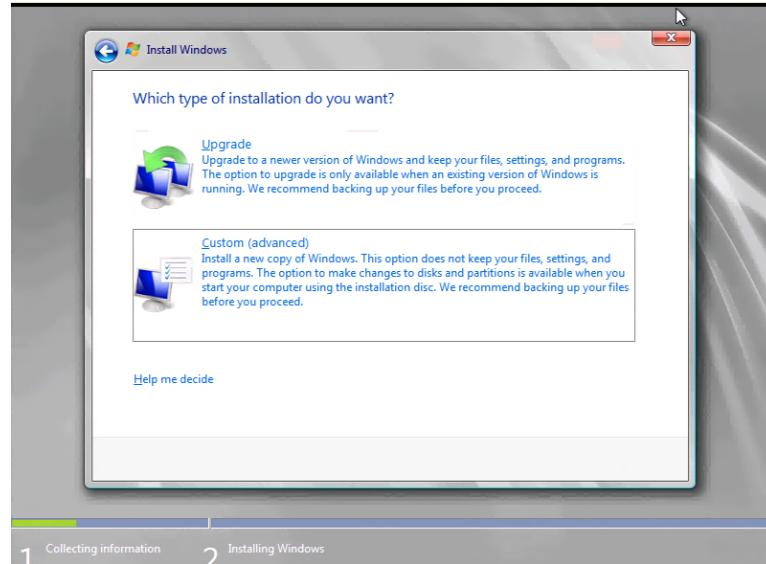

Figure 3-37. Windows Installation Type
3. When prompted to indicate the type of installation (Figure 3-37), click **Custom (advanced)**.